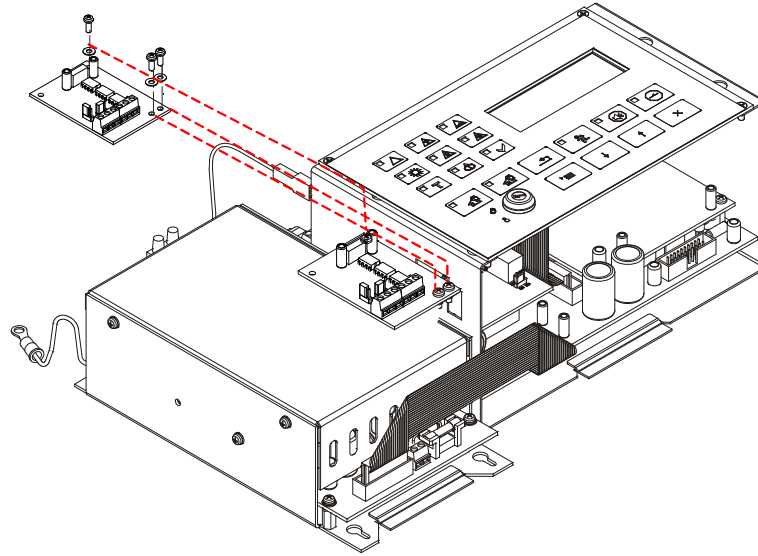

Fig.11
3.6. Install the module as shown on Fig.11 and fix it by means of the three screws to the box of the Main Module.